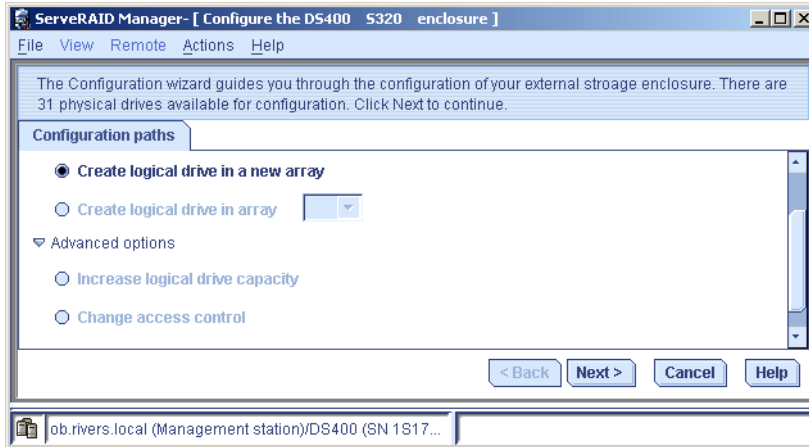

Figure 4-88 Configuration options
3. Verify that **Create logical drive** is selected as shown in Figure 4-88 on page 133 and click **Next**.